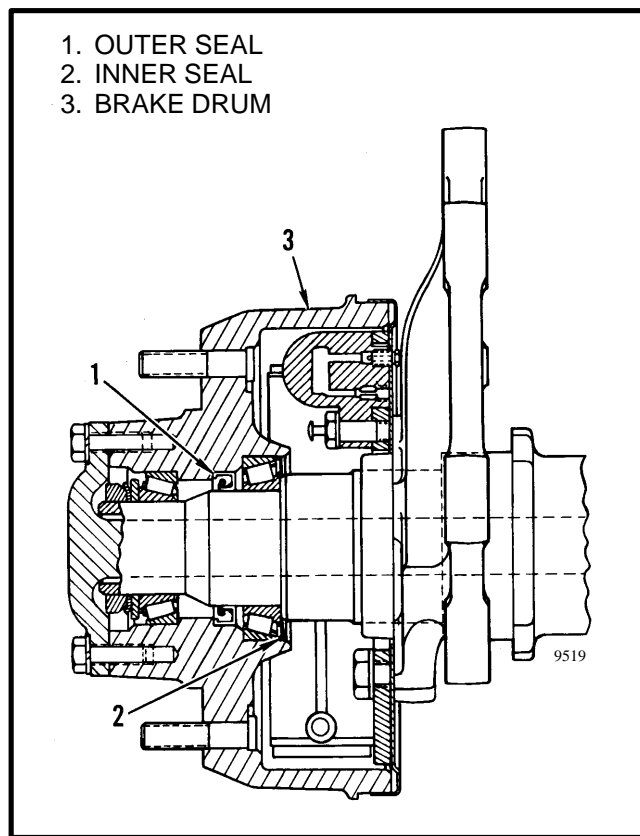

FIGURE 14. GREASE SEALS
10. Clean the hub bearings. Lubricate the hub bearings with the correct amount of wheel bearing grease. Install the hub bearings and seals in the hub. Install the assembly on the axle housing. See FIGURE 14.